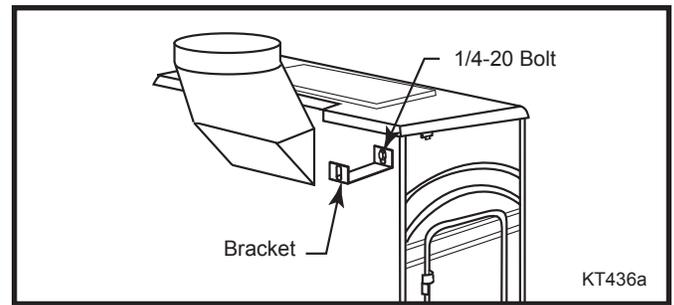

Fig. 2 Attach brackets with 1/4-20 bolts.
- Using the four (4) 1/4-20 bolts provided with your kit, fasten each of the four (4) heat shield brackets to the threaded hole in the back of your stove. (Fig. 2) Remember, the brackets for your stove may look somewhat different from those pictured here.